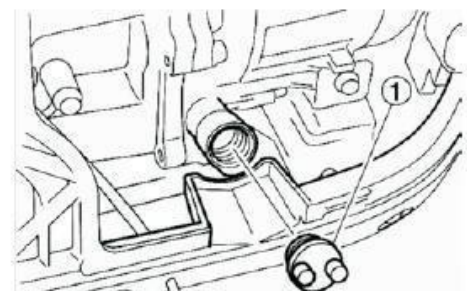

Figure 2
Place the generator on a level surface. DO NOT tilt the generator while adding oil. It can cause you to overfill the oil and/or cause the oil to leak into areas in which it is not intended. Remove the oil filler cap (1) as seen in figure 2.